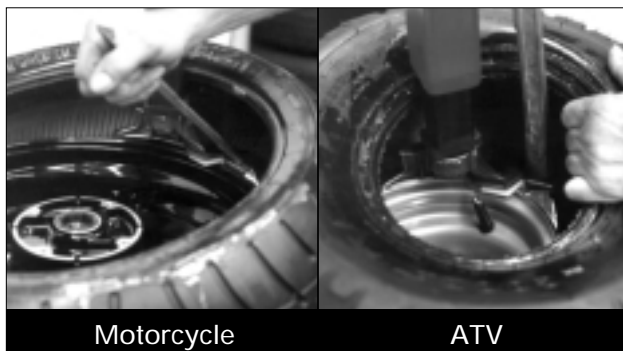

Figure 11 - Demounting Lower Bead
13. Lift and hold the tire at an angle so that the lower bead is resting in the drop center directly across from the demount head, and is loose below the demount head (Figure 11). Insert the smooth curved end of the bead lifting tool down over the forward end of the mount/demount tool and below the lower bead. Lift the bead up and over the knob on the demount head (Figure 11).